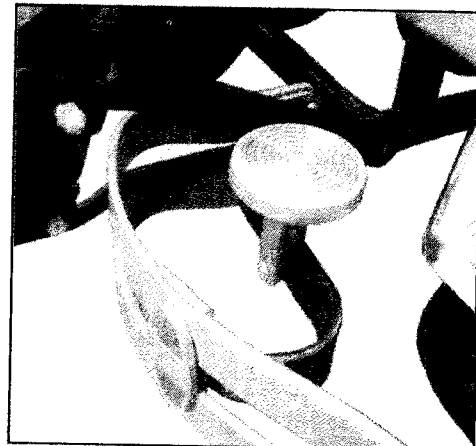

Figure 4-219 Bumper Step Plate
28. Install a step plate bracket on the right rear bumper brace. Attach a step plate with pad to the step plate bracket with provided hardware (Figure 4-219).